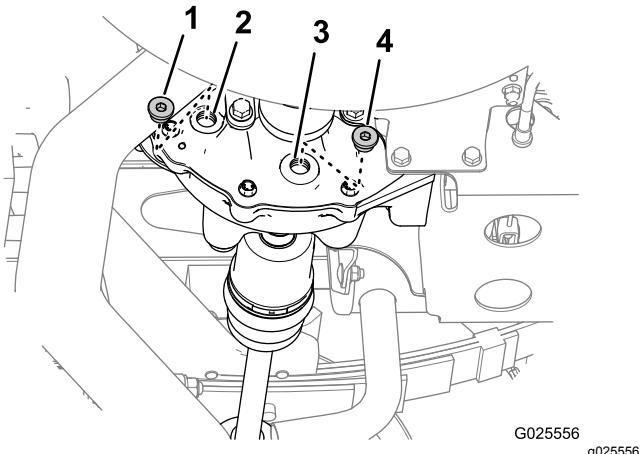

Figure 65
1. Align a drain pan under the drain plug (Figure 65).
2. Remove the fill plug from the fill port and the drain plug from the drain port of the differential (Figure 65).
4. Install the drain plug into the drain port (Figure 65), and tighten the plug to 14 to 19 N·m (10 to 14 ft-lb).
5. Add 550 ml (18.6 fl oz) of the specified oil into the fill port of the differential (Figure 65).
6. Install the fill plug into the fill port (Figure 65), and tighten the plug to 14 to 19 N·m (10 to 14 ft-lb).